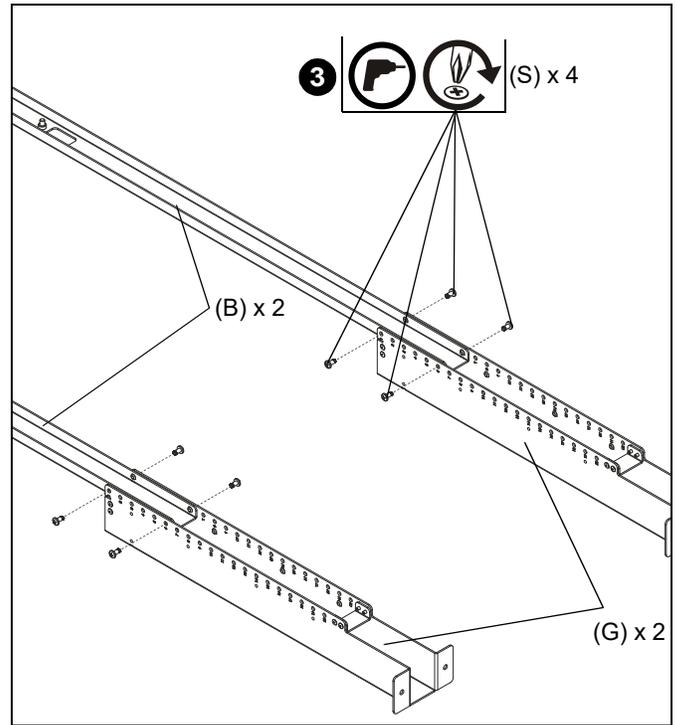

Figure 1
3. Use #3 drill bit (V) and four 1/4-20 x 1/2" Phillips tapping screws (S) to secure top uprights (B) to bottom uprights (G). (See Figure 1)